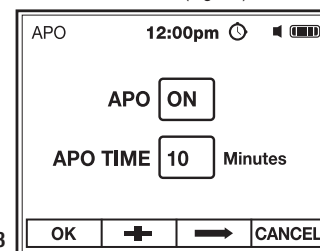

Fig. 23
2. Use the **F3** ⇔ soft key to select APO or APO TIME (highlighted in red), (Fig. 23).
3. Use the **F2 +** soft key to turn APO ON or OFF or adjust APO timer (Max. 30 min), (Fig. 23).
4. Press the **F1 OK** soft key to save setting and return to Meter Settings (Fig. 23).